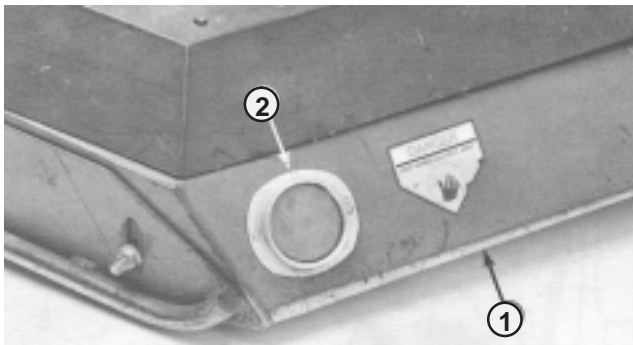

Figure 7
1. On each front cutting unit, position a round amber reflector on the front outboard corner as shown in figure 7.